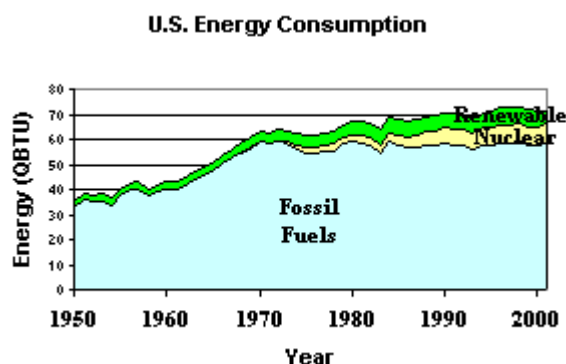

Fig. 2: U.S. Energy Consumption (DOE)
The rate at which heat gets transferred depends upon (1) the thickness of the material L , (2) the thermal conductivity k (this depends on the composition of the material), (3) surface area of the material A , and (4) the temperature difference between the reservoirs. In particular (see Fig. 2), the rate of heat transfer $= A k (T_H - T_C) / L$. This equation shows that the thicker the material separating the two reservoirs (L larger), the smaller the surface area that is contact (A larger), or the smaller the temperature difference, the slower the rate of heat transfer through the substance. When it comes to heating and cooling our homes, this is exactly what we will need to strive for in order to reduce our energy bills.